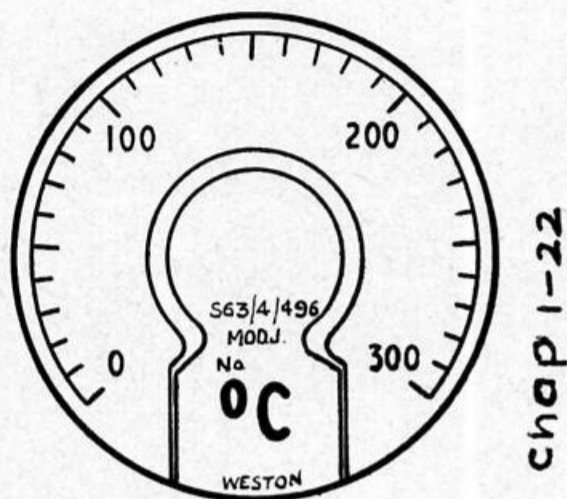

Fig. 1. Indicator, Type S63.4.496
1. This indicator (Ref. No. 6A/7130) (fig. 1) is calibrated in degrees C from 0 to 300; the indicator is controlled by variation of temperature in a resistance bulb which obeys a platinum law.